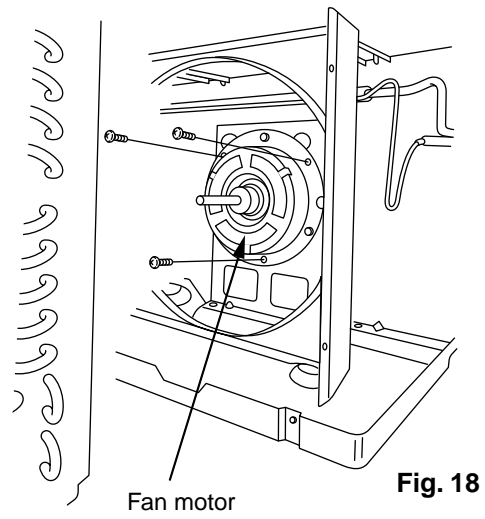

Fig. 18
- (3) Remove the 3 screws of the fan motor mounting plate. (Fig. 18)